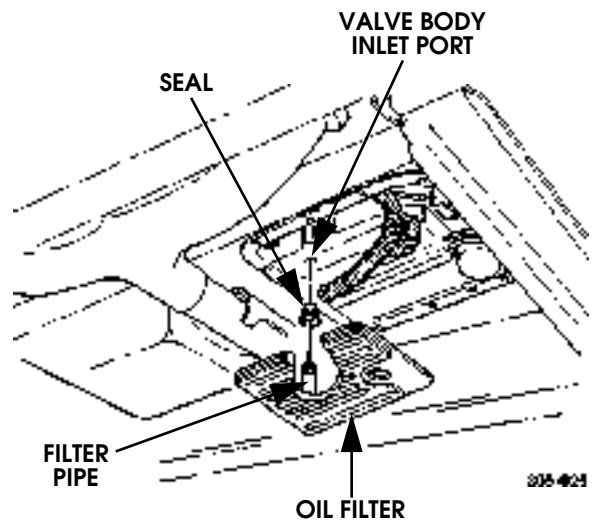

Figure 5-30: Oil Filter Removal/Installation
- Remove oil filter from valve body (Figure 5-30).
- Inspect filter seal (Figure 5-30). Undamaged seal is reusable.
- Insert filter pipe in case with twisting motion. Align filter with valve body and work into place (Figure 5-30).